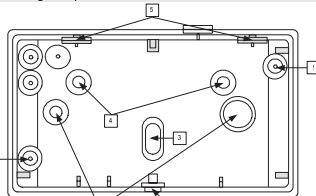

Fig 7: Wireless VITRON Mounting Knockouts
- Open the required mounting knockouts, according to the type of installation (corner, flat or swivel mounting, see Fig 7).
- If a back tamper protection is required open the back tamper knockout (3, Fig. 7)
- Open the swivel mounting adaptor knockouts (4, Fig 7)